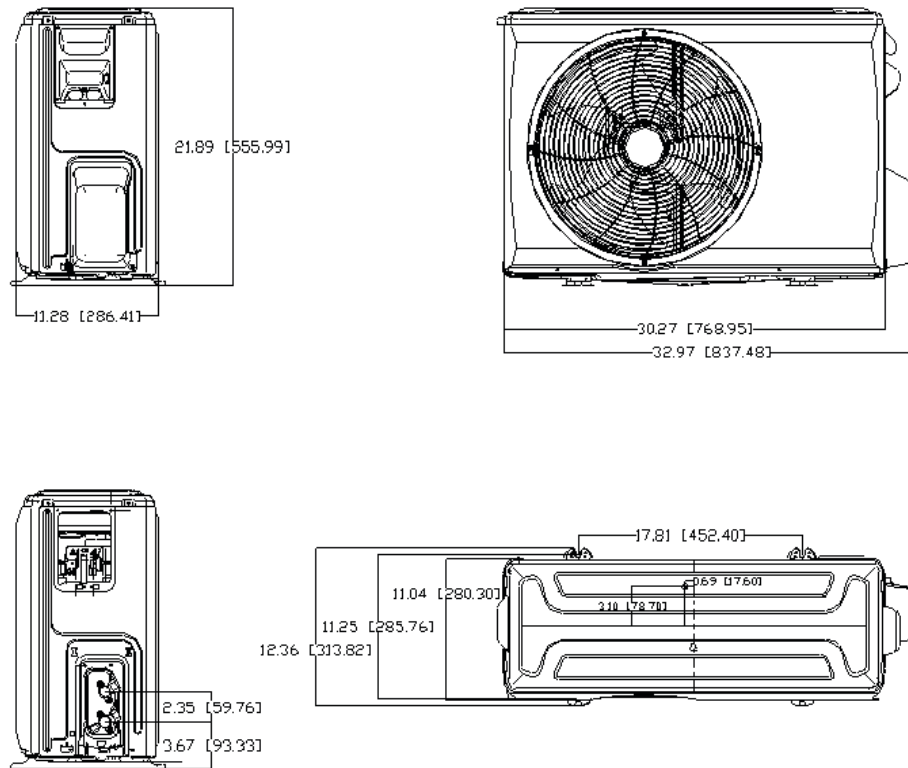

Fig. 3 — Size 12K (115V)
2. Use a rigid base to support the unit in a level position. If conditions or local codes require the unit be attached to a pad, tie down bolts should be used and fastened through knockouts provided in unit base pan. Refer to unit mounting pattern in Fig. 3 to determine base pan size and knockout hole location. For hurricane tie downs, contact distributor for details and PE (Professional Engineer) Certification, if required. For extreme outdoor conditions applications refer to the 'Cold Climate Application Guideline Ductless.